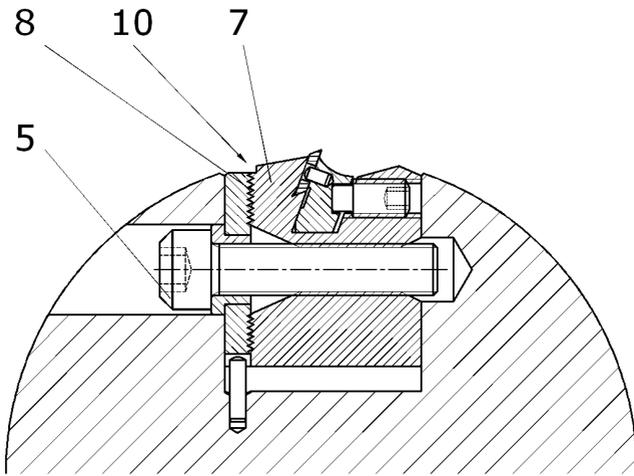

Fig. 4
Swivel element with fix serration and fine adjustment for cutterhead type 2 (see Fig. 4 and 5):
2. Make first a rough adjustment by positioning the swivel element (7) into the next notch (8) of the desired bevel angle (see Fig. 4).
3. Loosen screw (5) with an Allen key only so far until the swivel element (7) can be turned.
4. Set swivel element to the desired angle position. Consider thereby the dial on the adjustment scale (10); (see Fig. 4).
5. Tighten the set screw (5) with an Allen key only slightly.
6. Loosen the set screw (13). Turn forward or backwards (max. $\pm 3^\circ$) the swivel element with the screw (14) of the adjustment scale until the desired bevel angle is set.
7. Tighten the set screw (13) with an Allen key to the required torque of 6 Nm.
8. Tighten the screw (5) with a suitable torque wrench to the required torque of 25 Nm.